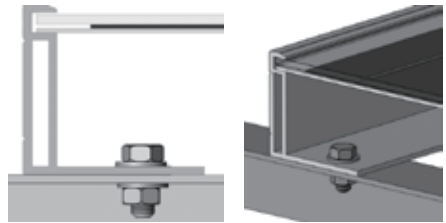

Figure1. SPV module installed with screw fitting method1
(1) Screw fitting: Using corrosion-proof screws (M8) in the existing installing holes in the module frame.
- Applied torque should be 8 Newton-meters. Please find detailed mounting information in Figure 1.